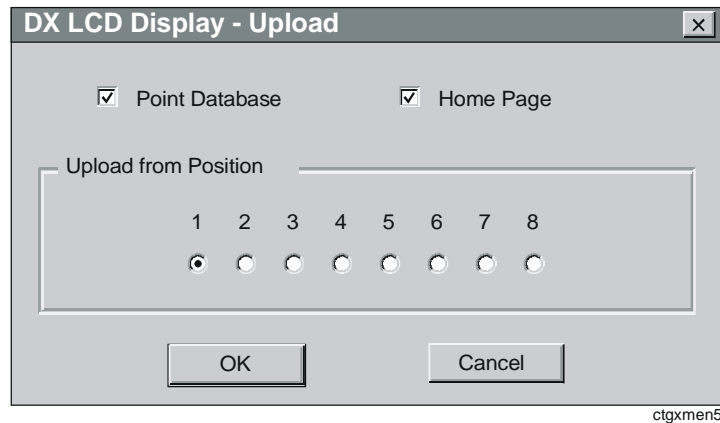

Figure 16-6: DX LCD Display Upload Dialog Box
2. On the DX LCD Display menu, click Upload Display. The DX LCD Display Upload dialog box appears (Figure 16-6).